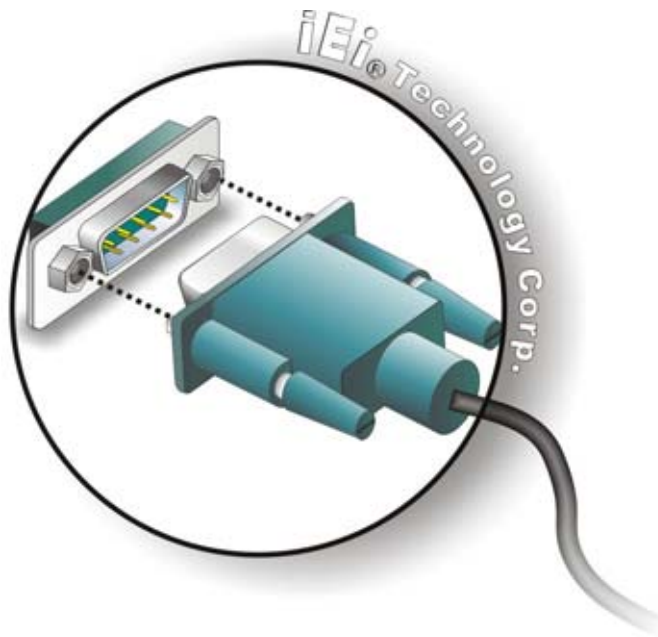

Figure 5-14: Serial Device Connector
Step 2: Insert the serial connector. Insert the DB-9 connector of a serial device into the DB-9 connector on the external peripheral interface. See Figure 5-14.